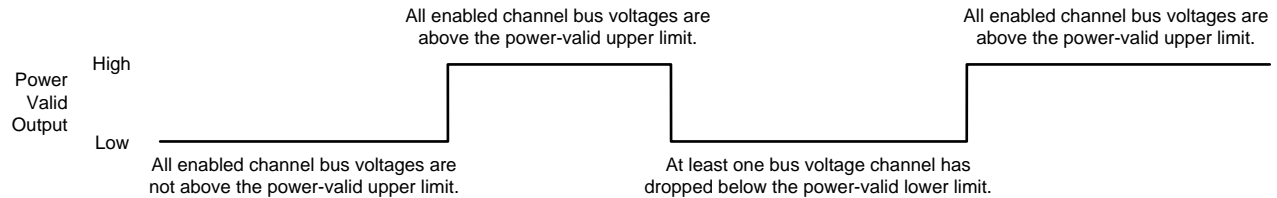

图 19. Power-Valid State Diagram
The power-valid alert verifies if all power rails are above the required levels. This feature manages power sequencing, and validates the reported measurements based on system configuration. Power-valid mode starts at power-up, and detects when each channel exceeds a 10-V threshold. This 10-V level is the default value programmed into the Power-Valid Upper-Limit register. This value can be reprogrammed when the INA3221 is powered up to a valid supply-voltage level of at least 2.7 V. When all three bus-voltage measurements reach the programmed value loaded to the Power-Valid Upper-Limit register, the power-valid (PV) alert pin pulls high. PV powers up in a low state, and does not pull high until the power-valid conditions are met, indicating all bus-voltage rails are above the power-valid upper-limit value. This sequence is shown in 图 19.